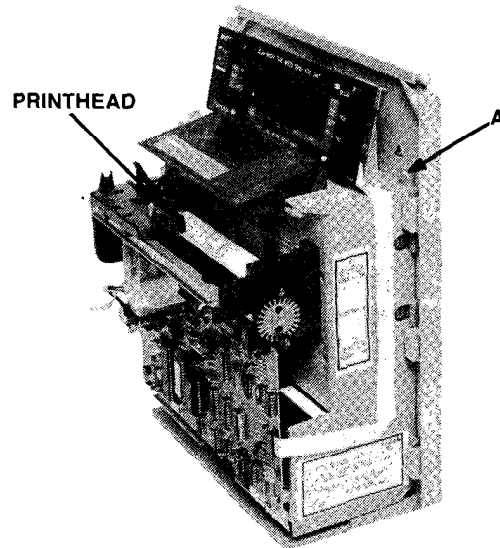

Figure 2
2. Remove (but do not discard) screw A (Figure 2). Then lift the chassis from the backplate.
9. Hang the chassis on the backplate and secure it in place with screw A (see Figure 2 again).